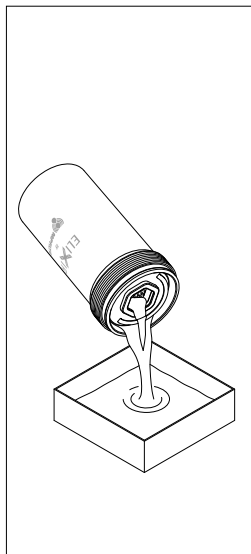

fig. 10
- (Fig. 10) Empty the operating fluid from the bowl into the collection vessel